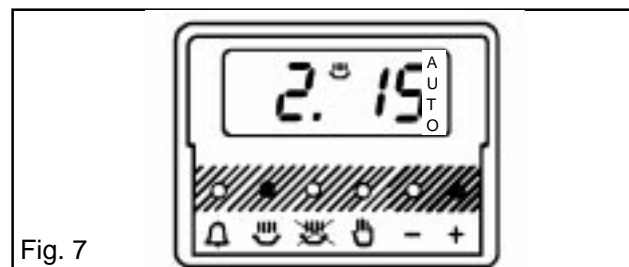

Fig. 7
- iii) To set the length of cooking time, press the cooking hours button (🕒) press the increase control (+) until the required length of cooking time is displayed, e.g. 2 hrs 15 mins as Fig. 7. If necessary depress the decrease control (-) until the correct time interval is achieved.